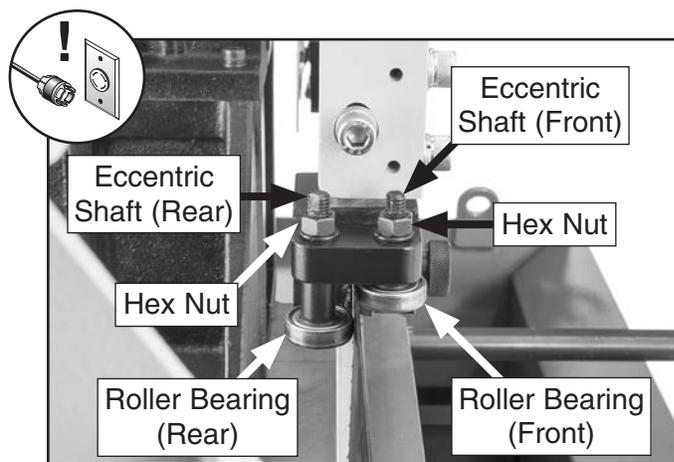

Figure 84. Location of roller bearings.
3. On left blade guide, loosen hex nut on front eccentric shaft (see **Figure 84**).
4. Turn eccentric shaft and adjust roller bearing (see **Figure 84**) so it lightly contacts blade or has maximum clearance of 0.002".